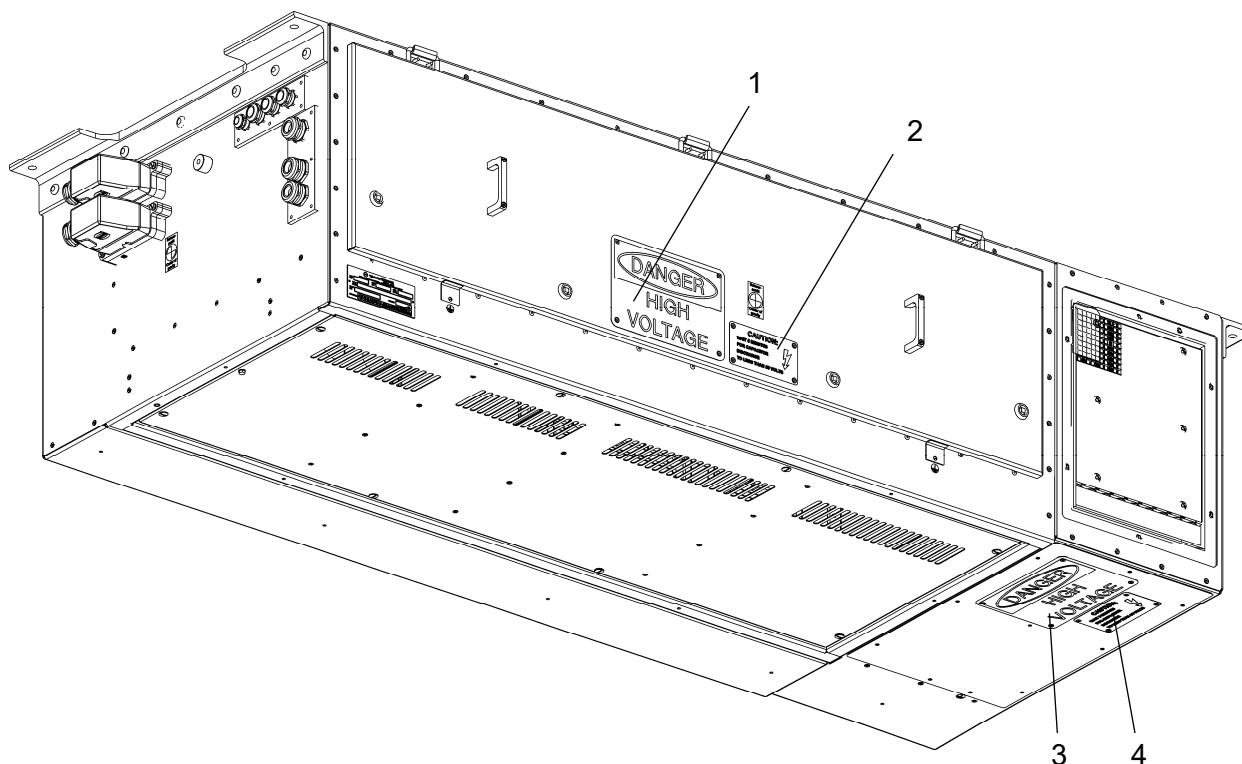

Figure 3-12: Warning Decals
- Clean warning labels (1), (2), (3) and (4) on the dry section service cover as well as the small bottom service cover. See Figure 3-12.